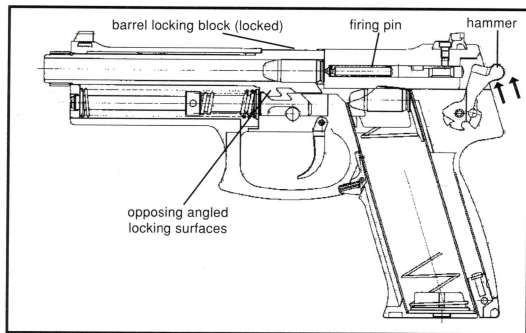

Figure 5 Firing
- A. **Firing** - (See Figure 5) Pulling the trigger rearward pulls the trigger bar forward. The trigger bar pivots the sear actuator upwards which disengages the firing pin block. At the same moment, the sear is pivoted out of engagement from the lower of the two shelves located on the hammer. The compressed hammer spring drives the hammer forward into
H. **Locking** - (See Figure 5) -The slide presses the barrel forward. As it does, the opposing angled surfaces of the barrel locking block and recoil spring guide rod pivot the rear end of the barrel up into engagement with the ejection port in the slide. The slide is now fully forward and the new round is ready to be fired.